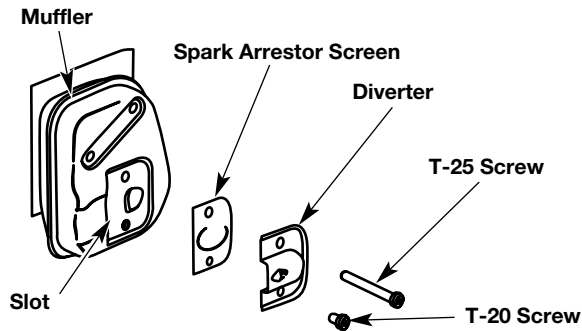

Fig. 43
2. With a flat blade screwdriver or Torx T-20 bit and a T-25 bit, remove the screws attaching the spark arrestor cover to the muffler (Fig. 43).